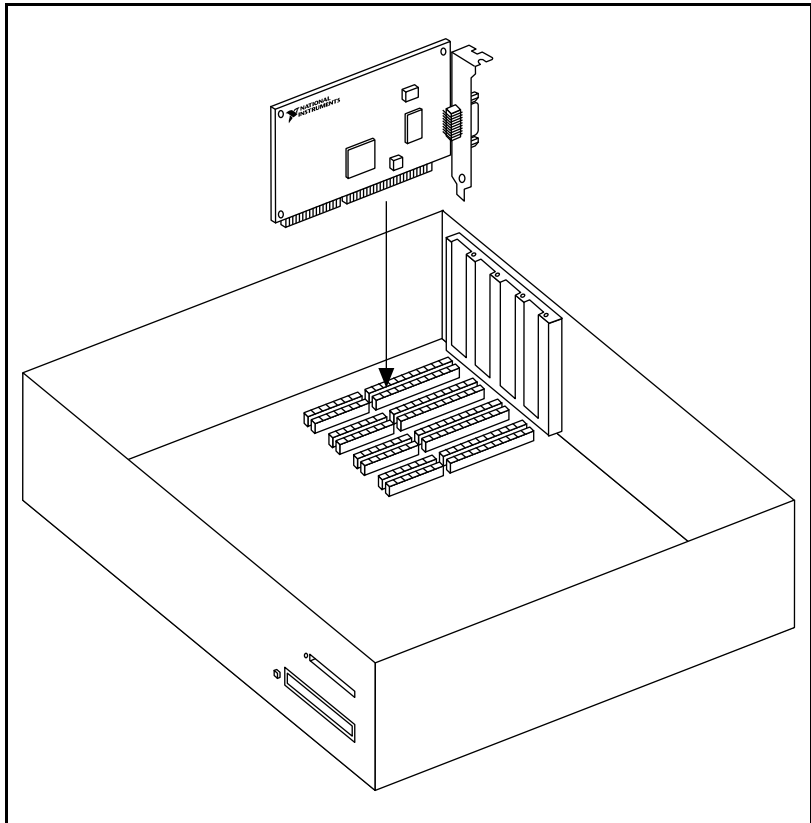

Figure 2-14. Installing the AT-GPIB/TNT
5. Insert the AT-GPIB/TNT into the slot with the GPIB connector sticking out of the opening on the back panel, as shown in Figure 2-14. It might be a tight fit, but do not force the board into place.
6. Insert the EISA-GPIB into the slot with the GPIB connector sticking out of the opening on the back panel. It might be a tight fit, but do not force the board into place. Figure 2-14, earlier in this chapter, shows a similar installation for the AT-GPIB/TNT.